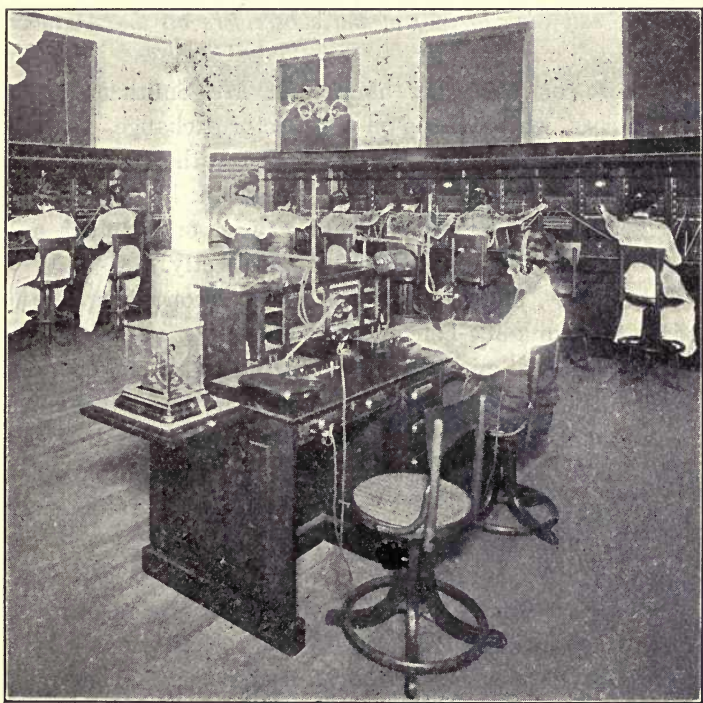

FIG. 94.—Operating Room in a Small City Exchange.
**262. Making a Connection.**—In order to understand how a call is made through a large city exchange, it is necessary to have in mind a distinct picture of a switchboard and to understand the functions of the various operators. (See Fig. 94.) For the sake of clearness it will be well to take a single typical case.